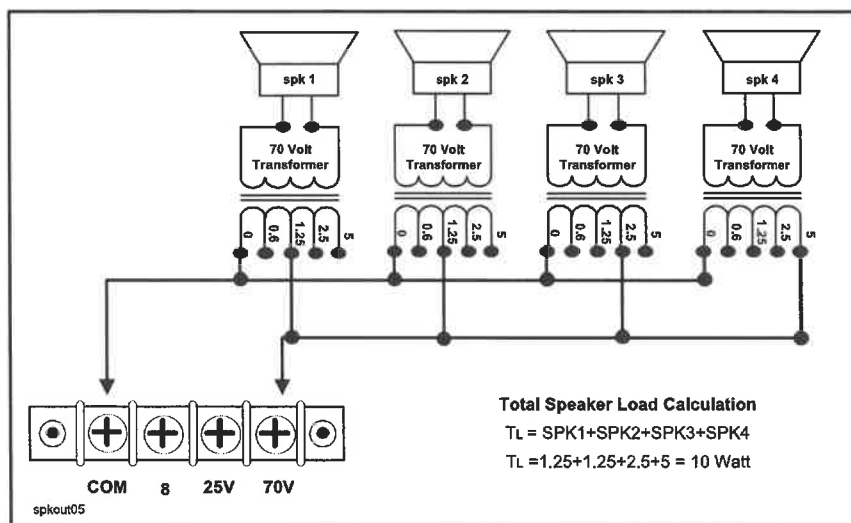

Fig. 13 - 70 Volt Constant Voltage System Diagram
- 3) Add all the speaker taps wattage (see Fig. 13) and be sure that the total power needed does not exceed the Rated RMS Power Output of the Amplifier